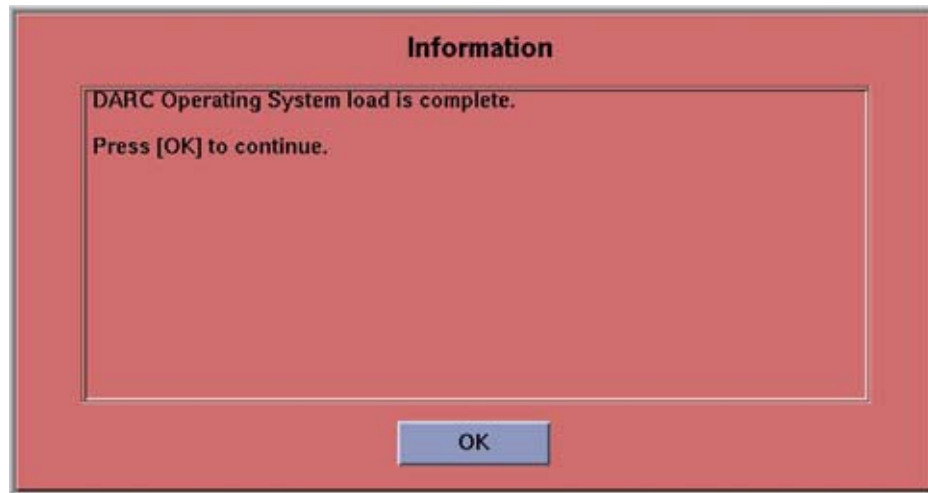

Figure 6-11 DARC OS Load Complete Pop-up Window
- 8.) The DARC OS 'Load Window' should disappear when the load has completed successfully. An information window should appear. See Figure 6-11.